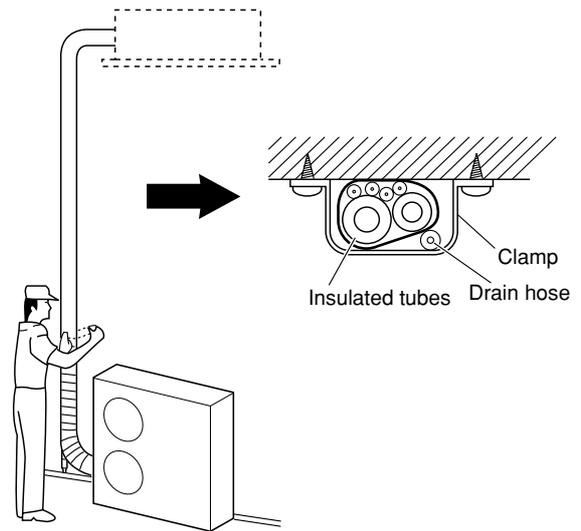

Fig. 6-10
- (1) At this time, the refrigerant tubes (and electrical wiring if local codes permit) should be taped together with armoring tape in 1 bundle. To prevent the condensation from overflowing the drain pan, keep the drain hose separate from the refrigerant tubing.
- (2) Wrap the armoring tape from the bottom of the outdoor unit to the top of the tubing where it enters the wall. As you wrap the tubing, overlap half of each previous tape turn.
- (3) Clamp the tubing bundle to the wall, using 1 clamp approx. each meter. (Fig. 6-10)